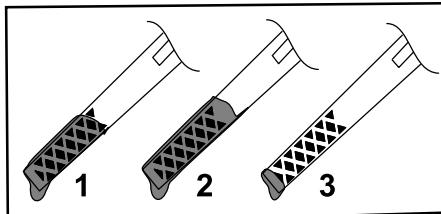

Figure 25
3. Remove the dipstick by rotating the cap counterclockwise and pulling it out (Figure 25).
4. Tip the machine onto its side (so that the air filter is up) to drain the used oil from the oil-fill tube (Figure 25).